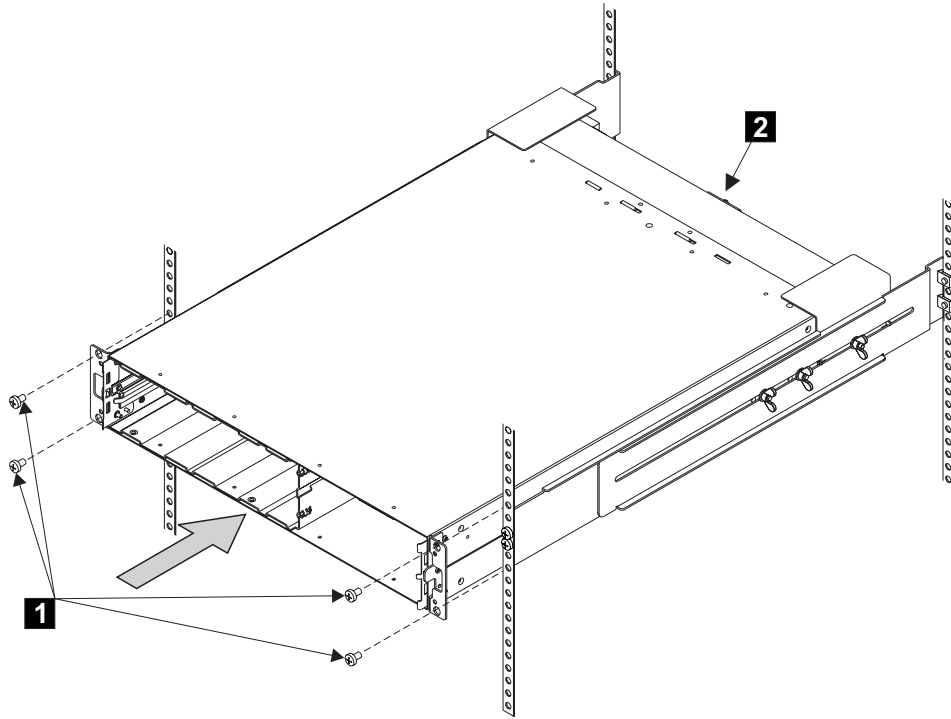

Figure 167. Replacing the 2145 UPS into a rack
5. Install the front flathead screws **1** (see Figure 167).